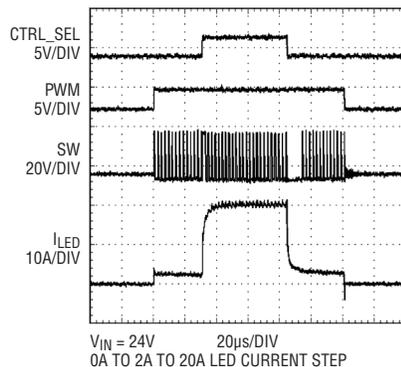

Figure 4. Zero to 2A to 20A LED current steps
1.5V. To minimize the transition time between current levels, the LT3743 employs individual compensation for each level so that the current control loop may return to steady-state operation as quickly as possible. Figure 4 shows the LED current step from 0A to 2A to 20A.